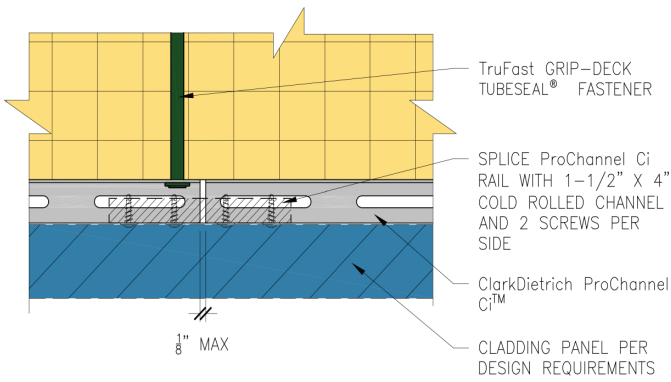

Figure 3
**Step 4** Abutting ProChannel Ci channels shall have a min 1/16" to max 1/8" gap to accommodate for expansion and stepped to avoid concurrent joints on the vertical steel-stud. (see Fig. 3 for details).
- When base wall's stud flange is less than 2", splice abutting channel joints with 1/2"x 4" Cold Rolled Channel (CRC) and 2 (two) pan head screws per side to attach the Cold Rolled Channel (CRC) (see Fig. 3)